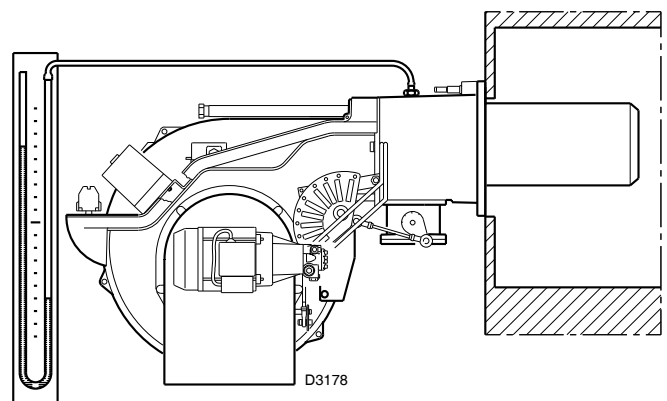

Fig. 34
- Fit a U-type manometer (Fig. 34) to the gas pressure test point on the sleeve. The manometer readings are used to calculate the MAX. burner power using the Tab. K at page 23.
The arrival of gas at the sleeve is indicated by the U-type manometer (Fig. 34).
A guideline indication can be calculated from the Tab. K at page 23, simply read off the gas pressure on the U-type manometer, see Fig. 34 at page 28, and follow the instructions on page 23.